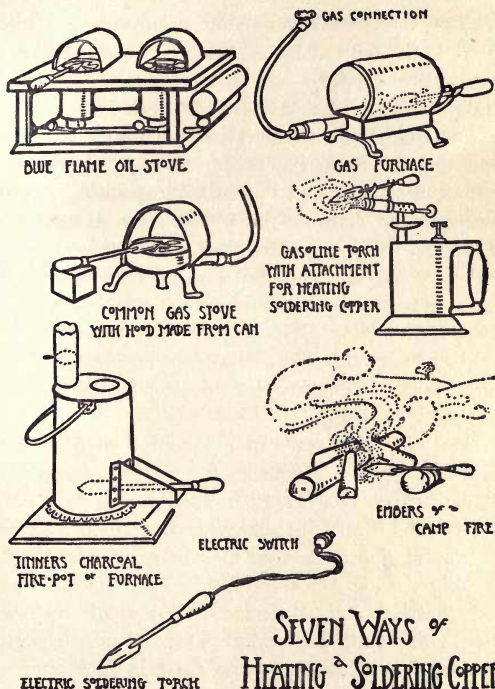

FIG. 16.
**The Blue Flame Oil Stove.**—For heating the coppers in my country shop, I use a blue flame oil stove, one of the less expensive sort, with the asbestos ring wick and the short removable chimneys. The stove has two burners and will heat from four to six coppers at once. The flames may be regulated nicely so as to give just the required amount of heat and this stove consumes very little kerosene, and, therefore, costs little to operate. In Fig. 16, it will be noticed that there is a curved hood over each stove hole. These hoods may be easily made from part of a large can or of a piece of tin or sheet iron bent into shape. These hoods conserve the heat and throw it about the coppers. I also place a piece of heavy wire netting over the grating of the stove holes to support the coppers and to permit their being laid to one side, out of the intense heat, when not immediately needed.
**The Gas Furnace.**—In my winter shop in the city where gas is available, I use the gas furnace shown in Fig. 16. This is a most satisfactory and widely used heater for soldering coppers, as it gives an intense blue flame that may be easily regulated.